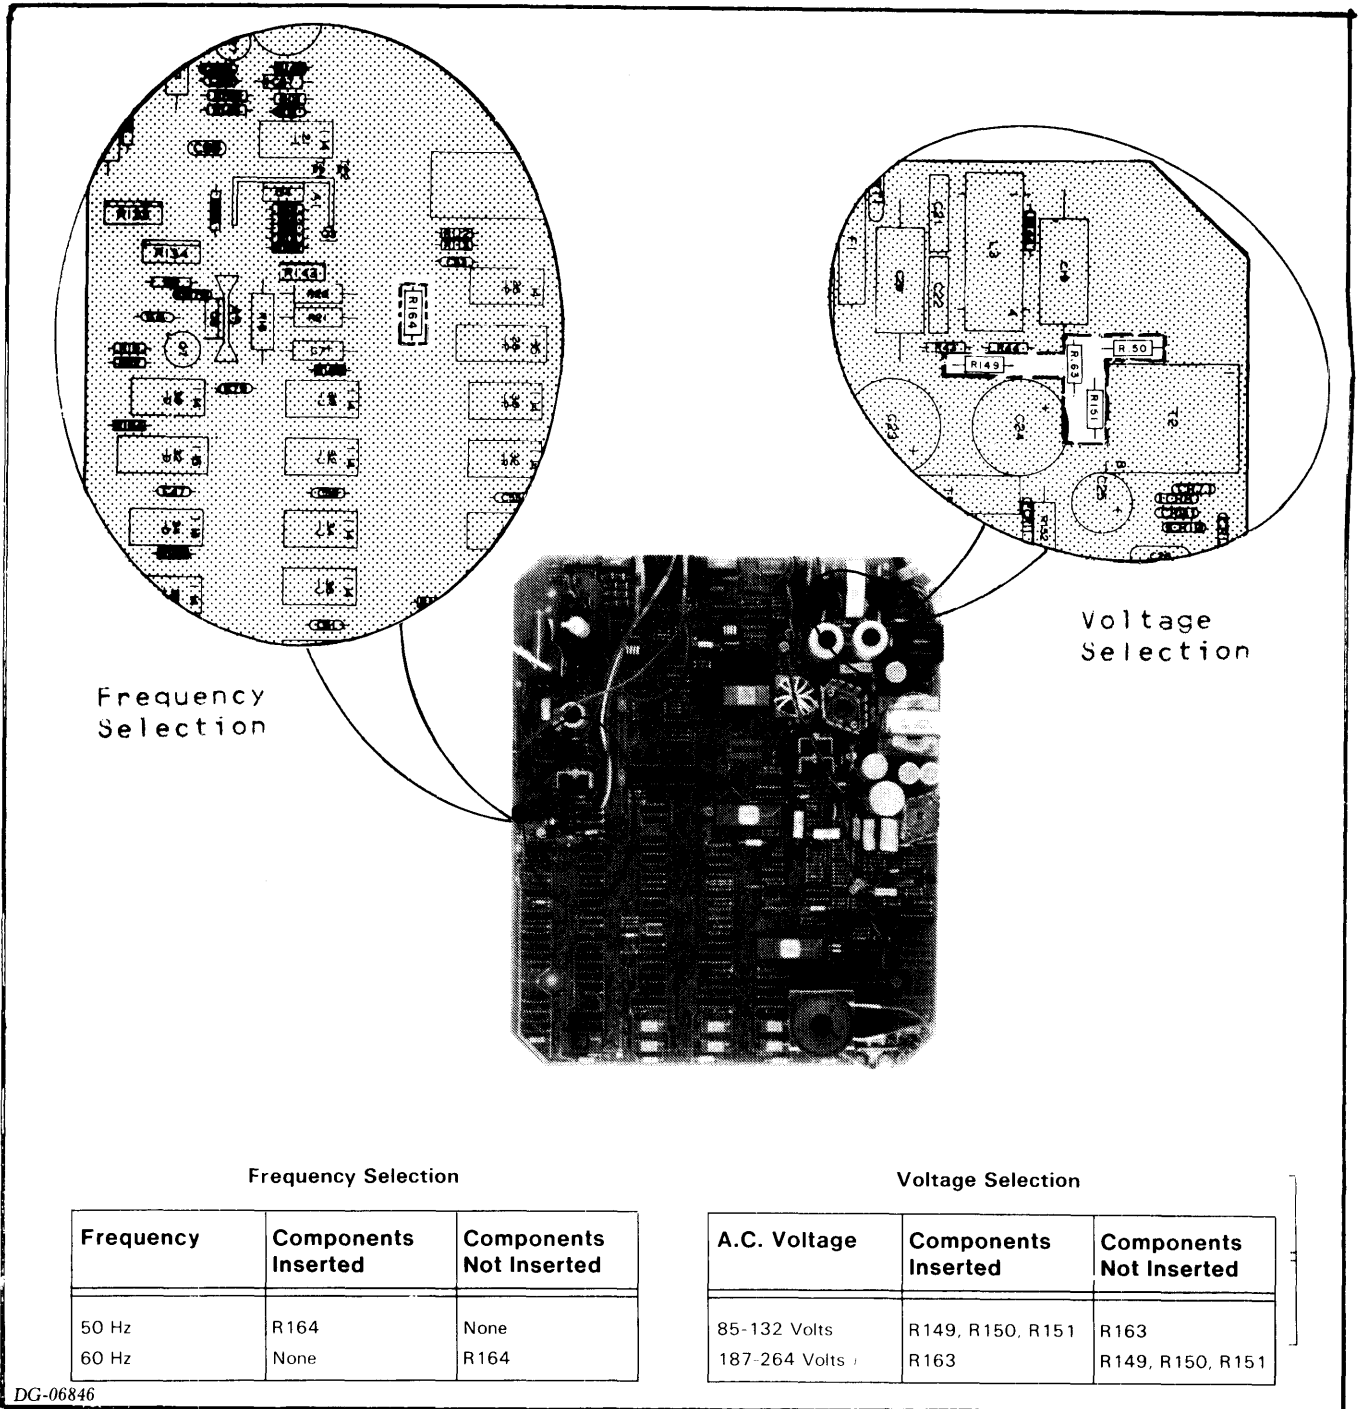

Figure 8.17 Power supply resistors
5. Make sure the power supply voltage and frequency select resistors on the new circuit board match the AC source being used (see figure 8.17).